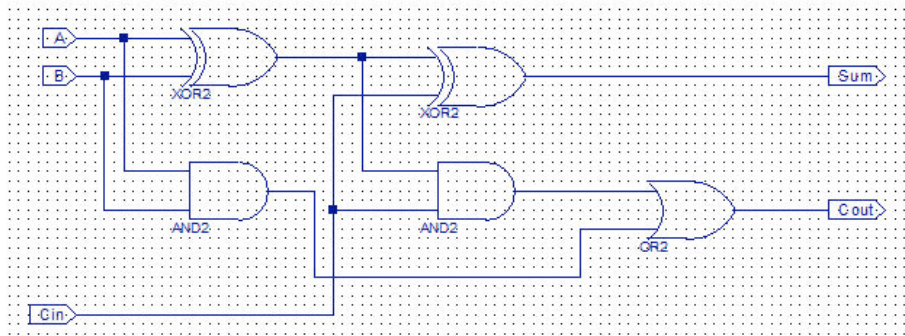

Figure 6. Completed Logic Circuit
- The completed schematic is shown in Figure 6. Save the schematic and close the file.